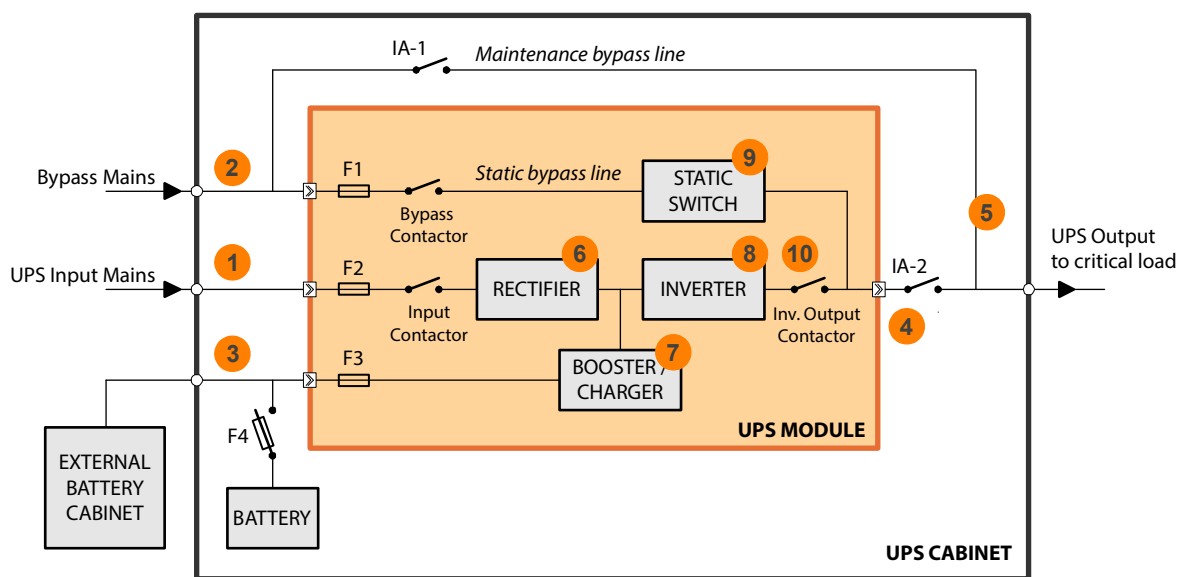

Figure 2.3 Kohler PW 9000DPA module
The UPS input mains and bypass mains are connected to an input power terminal block located in the lower part of the UPS cabinet. Both inputs require a 3ph+N feed but, although the two inputs are shown as being separate in Figure 2.3, in a standard installation the input mains terminals (1) and bypass mains terminals (2) are usually linked at the cabinet's input power terminal blocks so only one mains supply feed is required.